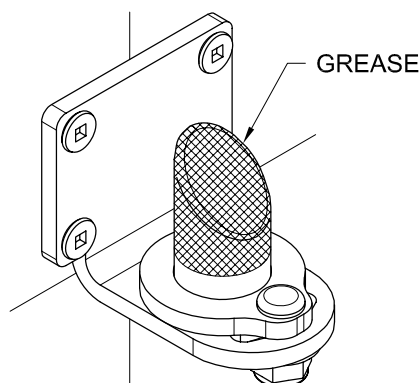

fig. 3
- Generously grease the cam portion of the bottom cam bracket as shown (fig. 3)